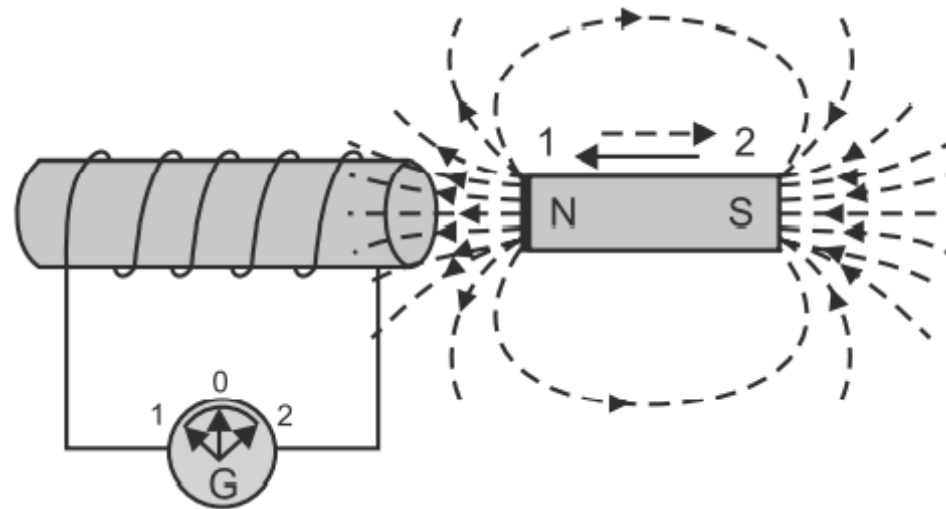

Fig. 2.2: Bar magnet in motion
- When a permanent bar magnet is taken nearer to the coil or away from the coil, as shown in Fig. 2.2: